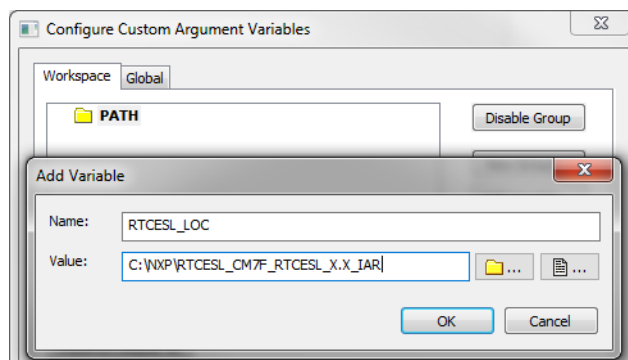

Figure 1-44. New variable
6. In the main dialog, click OK. See Figure 1-44.